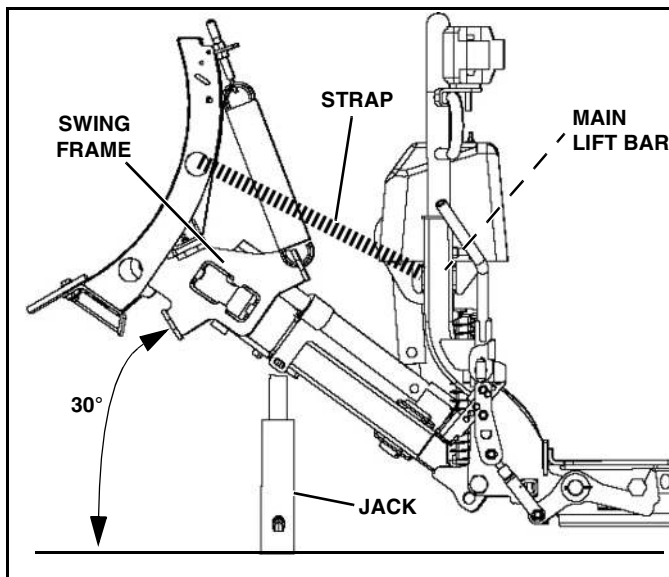

Figure 1-44
2. To lift plow, position jack under A-frame and angle up to a minimum of 30 degrees (or up to the lift stops). (See Figure 1-44).